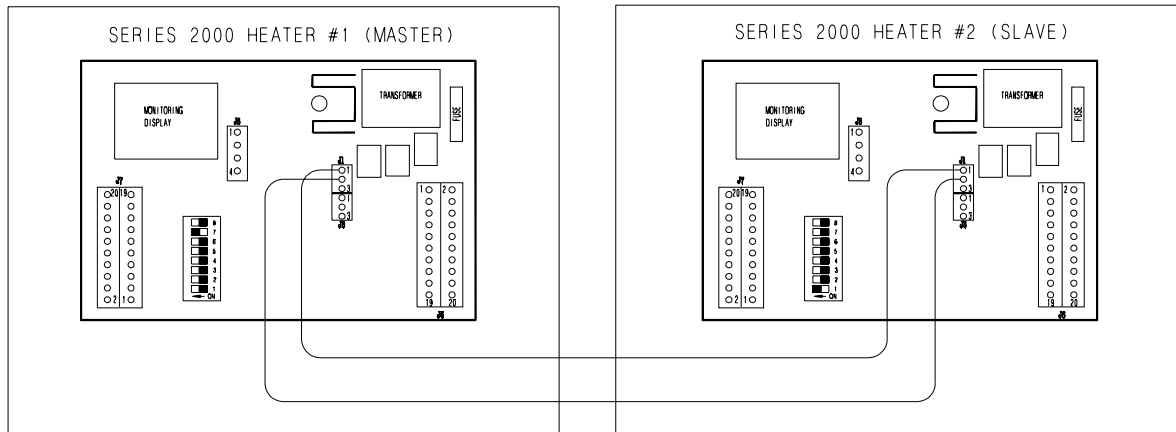

Figure 3: Secondary heater wiring diagram.
2. Run (2) 20 gauge (minimum) wires from secondary heater unit (slave) to heater unit #1
3. Connect wires as shown in Figure 3.